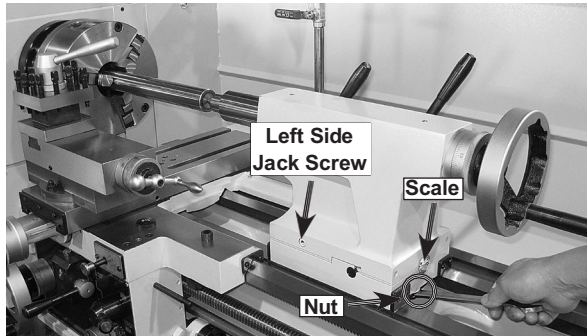
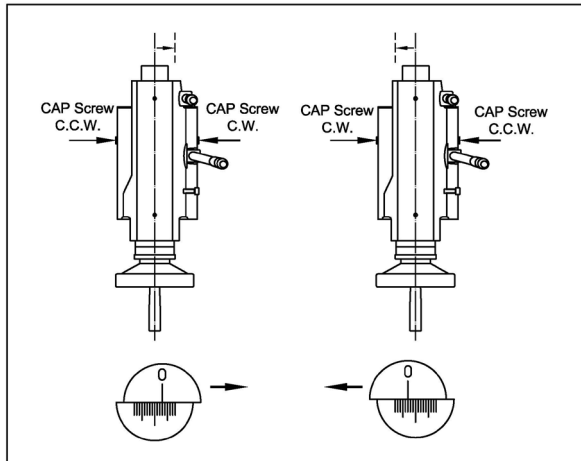

Figure 32. Tailstock offset adjustments.
Figure 33. Jack screw adjustment versus tailstock movement.
2. Loosen two nuts of bottom, adjust the left and right jack screws until the scale (Figure 32) indicates the offset you want. See Figure 33 for adjustment direction.